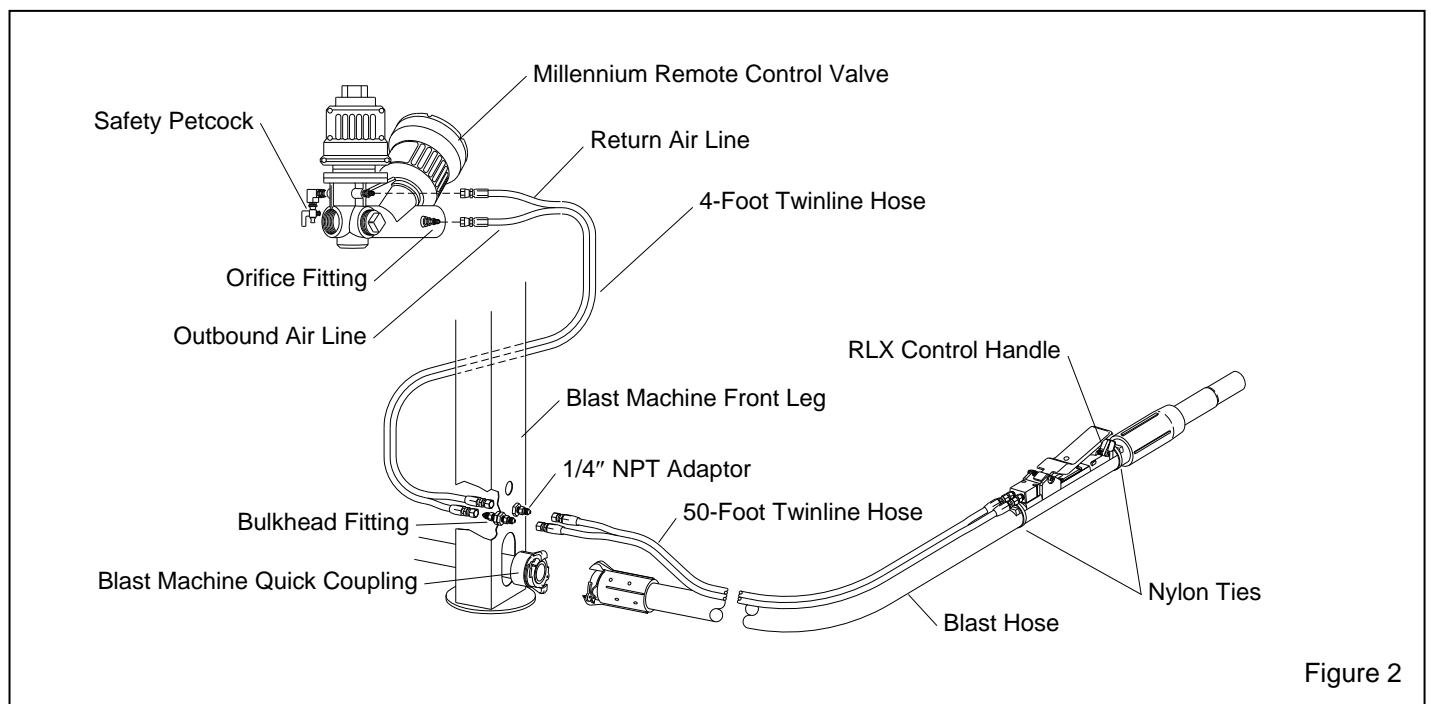

Figure 2
**1.3.4.1** The components of the Millennium remote control system are shown in Figure 2. They include the Millennium Valve, RLX Control Handle, 50-foot twinline control hose and 4-foot long twinline control hoses, and all necessary fittings.
**1.3.4.4** Millennium Remote Controls operate pneumatically on the "return air" principle (See Figure 2). One stream of air travels down the outbound twinline and escapes through an opening located under the control handle lever. As long as air escapes through the and escapes through an opening located under the control handle lever. As long as air escapes through the opening, the remote control system remains inactive. When the lever is pressed, the opening is sealed, and air from the outbound line returns through the return line to open the inlet segment and close the outlet segment of the Millennium valve. This action pressurizes the blast machine and begins the blasting process. Releasing the handle exhausts the control air, which closes the inlet segment, and opens the outlet segment to depressurize the machine and stop the blasting.
### 2.1 Blast Hose and Control Hose Connections, Ref. Figure 2.